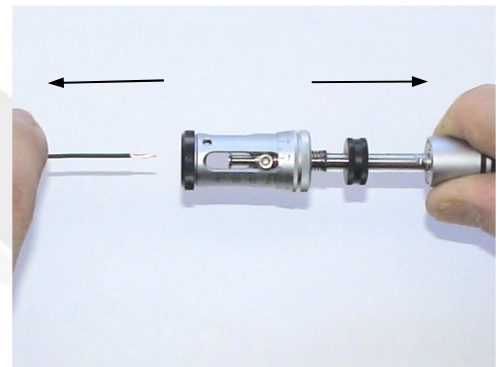

Fig. 7 Stripping
- Start the stripping action by pulling the grip and the cable, applying a consistent and constant pull. **(Fig. 7)**
This action will cause the stripping head to start turning and the blades will cut through the insulation until they reach the diameter which has been set. The constant pull between the grip and the cable then causes the insulation to be stripped from the wire. **(Fig. 7)**